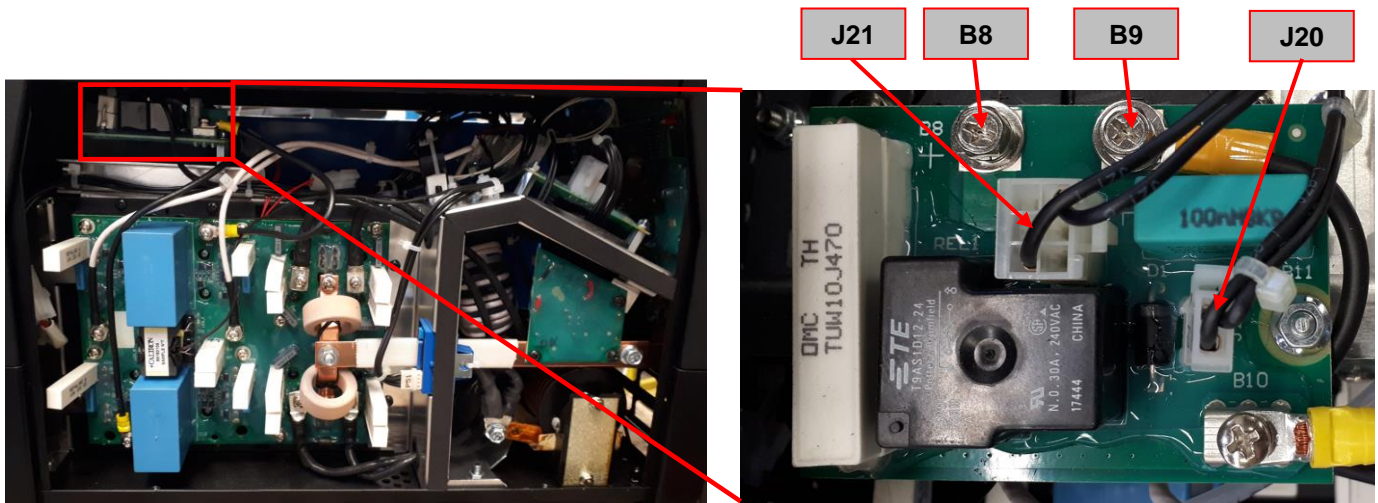

Figure 11 – Preload Board location and Test Points
5. Using the multimeter in VDC mode perform the tests as indicated in **Test Table 6**. See **Figure 11** for correct test points location.